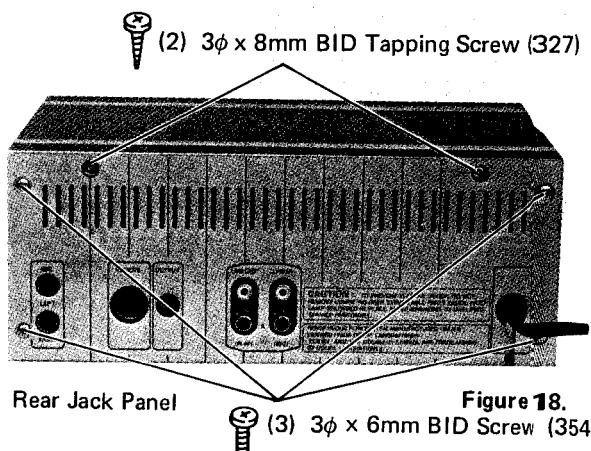

Figure 18.
- Remove four screws (3) holding jack panel as shown in Figure 18.